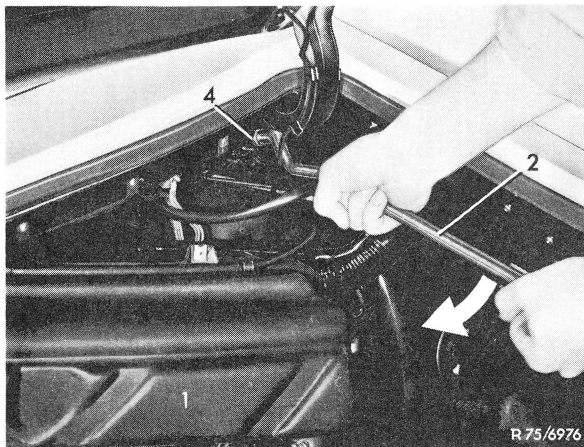
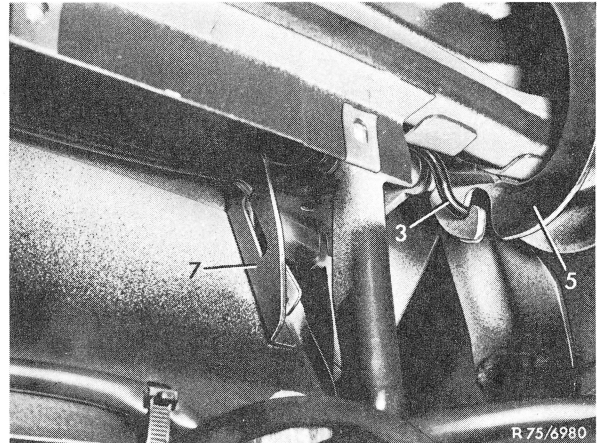
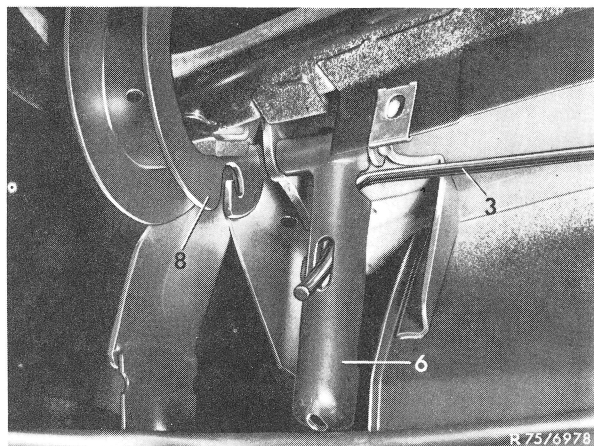

Figure 1
Figure 2
Figure 4
- 2 Loosen compensating tank (1). (Two sheet metal screws in top well.)
- 4 Position mounting lever (2) above torsion bar spring and tighten screw (4) well.
- 6 Turn mounting lever downwards (refer to arrow in Fig. 1) and lift torsion bar spring with both hands out of hinge lever (5) (Fig. 2).
**9** Remove torsion bar spring (3) at left from hinge lever for top well lid (6) (Fig. 4).
**11** Remove torsion bar spring from holder (7) (Fig. 2).
**12** For installation proceed vice versa. Make sure that the shorter torsion bar 6 mm thick is attached first to mounting (7) and then to trunk lid hinge (8) (Fig. 2 and 4). Tension spring by approx. 1/2 turn for connection to trunk lid hinge.
Attach second, longer torsion bar 5.5 mm thick first to hinge lever for top well lid (6) (Fig. 4). Tension spring by 1/2 turn and attach to trunk lid hinge (5) (Fig. 2).